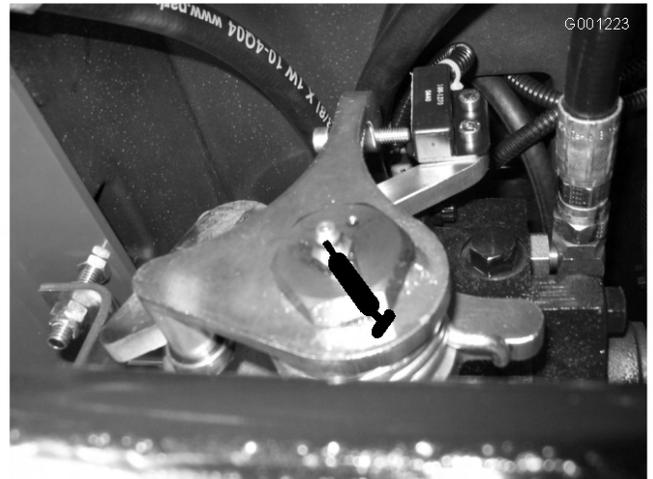

Figure 40
- Transmission neutral shaft (Figure 40)